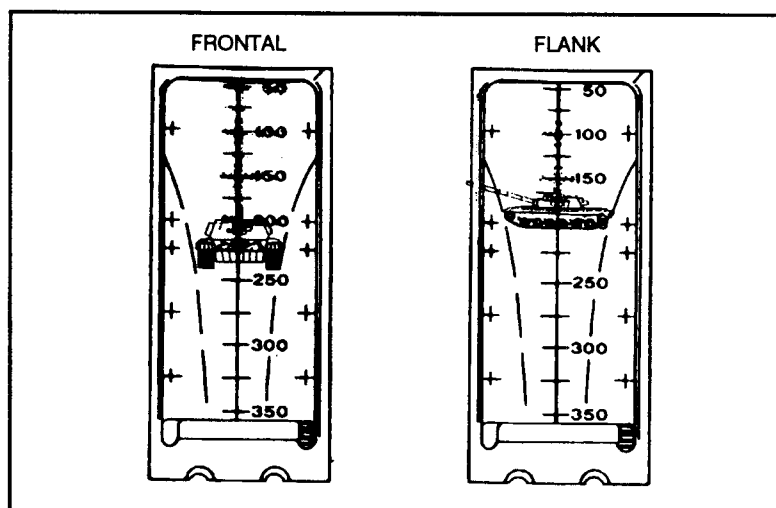
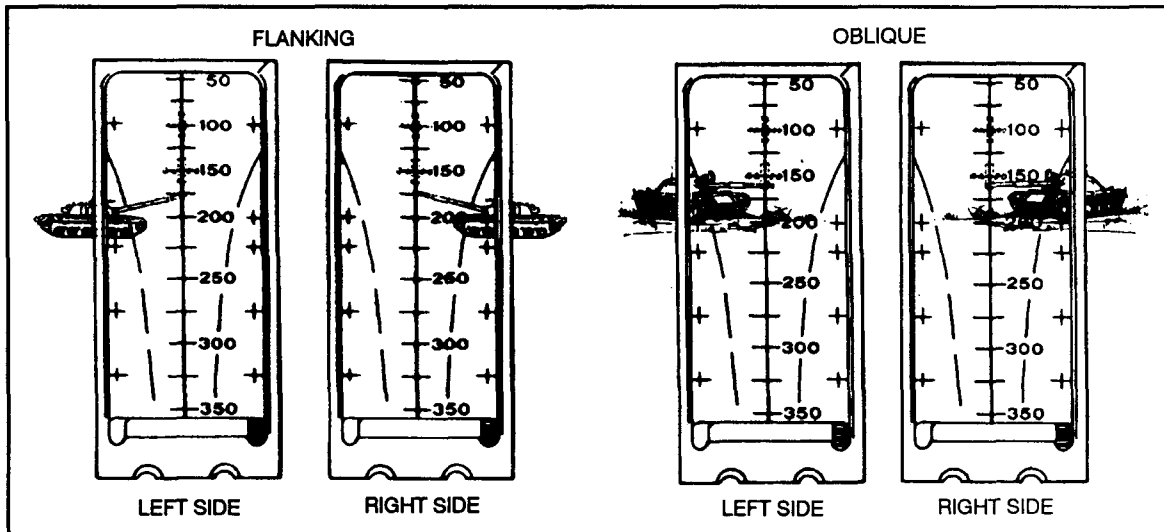

Figure 4-5. Sight picture, stationary targets, M72-series LAW.
Figure 4-6. Sight picture, slow-moving targets, M72-series LAW.
(1) **M72-Series LAW.** *Stationary targets* include those moving directly toward or away from the firer. Place the correct vertical range line in the center of the target (Figure 4-5). *Slow-moving targets* include those with an estimated speed of 5 mph or slower, or those moving in an oblique direction. Place either the left or right lead cross mark on the vehicle's center of mass (Figure 4-6, page 4-4). *Fast-moving targets* include those with an estimated speed of more than 5 mph. Place either the left or right lead cross mark on the leading edge of the vehicle (Figure 4-7, page 4-4).